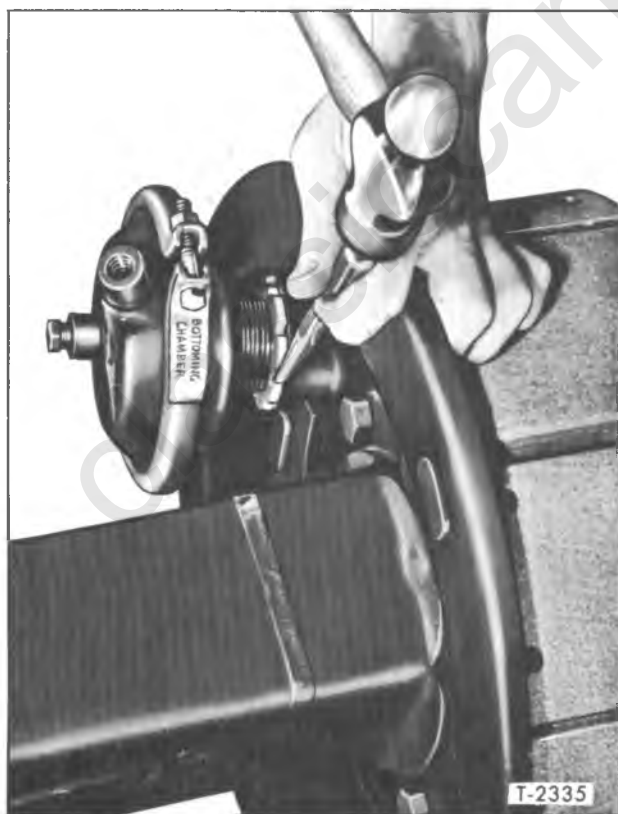

Figure 29—Staking Air Chamber Lockwasher
4. Install air chamber in brake spider housing until it "bottoms" in spider. Then back off not more than one full turn to position chamber ports in line with air tubes. The plastic guide will assure proper positioning of the wedge. At this point lock the air chamber in position by tightening the spanner nut against lock washer and the spider housing. Using a punch, drive edge of lock washer into notches provided in spider housing and spanner nut (see fig. 29).